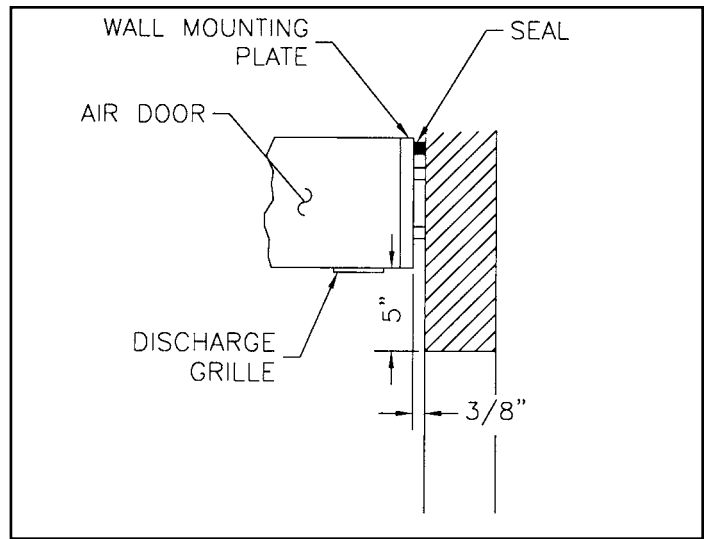
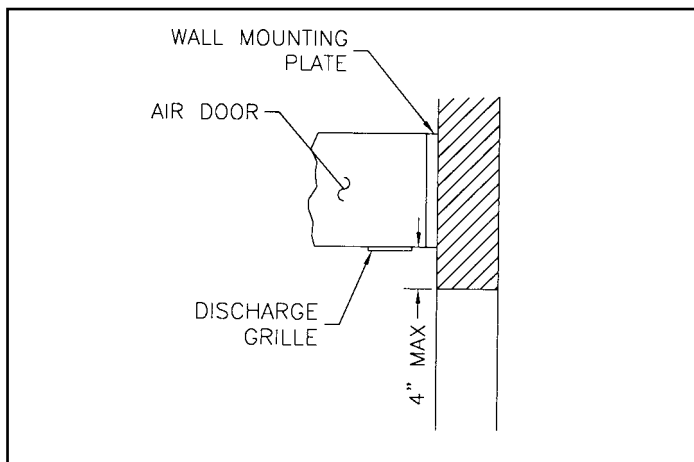

FIGURE 7B - High Wall Mounting
FIGURE 7A - Standard Wall Mounting
- C. Determine the exact location of the air door unit. Position the center of the wall mounting plate over the center of the door opening with the larger opening of the key hole slots facing up. For optimum performance, the bottom of the mounting plate should be no more than 1" above the top of the door opening. **STANDARD WALL MOUNTING: Figure 7A.** The wall mounting plate thickness provides a natural 1 3/8" space which allows for mounting up to 4" above the opening. **HIGH WALL MOUNTING:** If the wall mounting plate must be mounted higher than 4" above the door opening, it must be spaced out from the wall 3/8" for every inch the unit is above the door opening. **See Figure 7B.** For optimum performance, do not exceed the recommended **maximum mounting height of 8'** above the finished floor. For optimum protection, any void between the mounting plate and the wall should be sealed along the full length of the mounting plate.